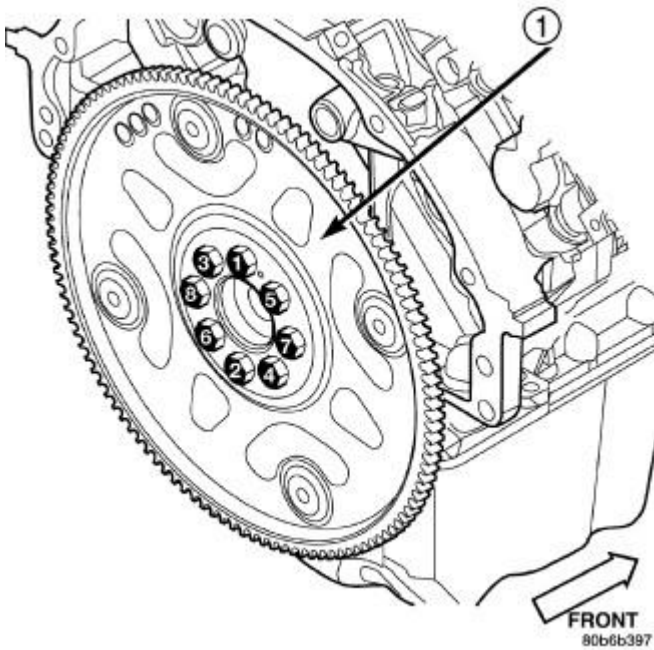

Fig. 193: Flexplate Tightening Sequence
2. Tighten the flexplate retaining bolts to 60 N.m (45 ft. lbs.) in the sequence shown in **Fig. 193**.